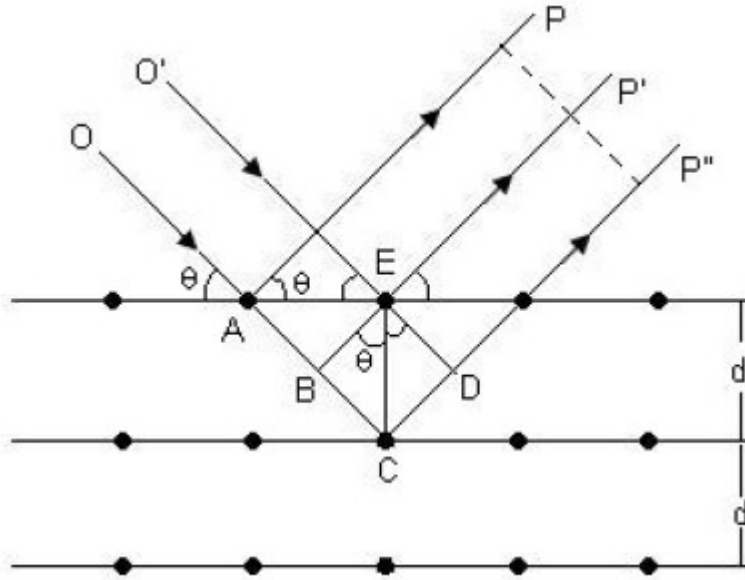

Figure 1
W.L. Bragg and W.H. Bragg considered the X-ray diffraction as the process of reflection of X-rays by crystal planes as shown in Fig. 1. A monochromatic X-ray beam of wavelength λ is incident at an angle θ to a family of Bragg planes. Let the inter planar spacing of crystal planes is 'd'. The dots in the planes represent positions of atoms in the crystal. Every atom in the crystal is a source of scatterer of X-rays incident on it. This angle θ is called the angle of diffraction or glancing angle.